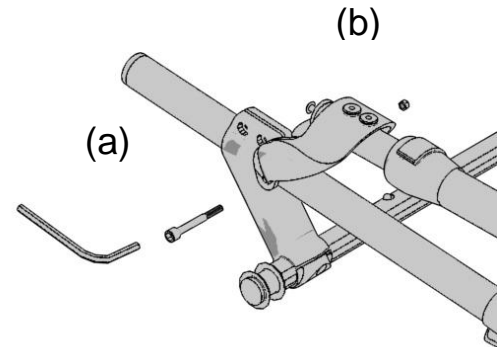

figure 1
3. Slide the 2 vertical straps through the buckles and tighten (figure 1)